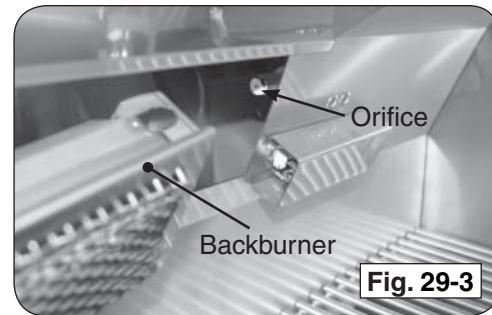

Fig. 29-3
2. Carefully pull the left end of the backburner forward until the burner can be moved to the left pulling it free from the orifice located on the right side (see Fig. 29-3).